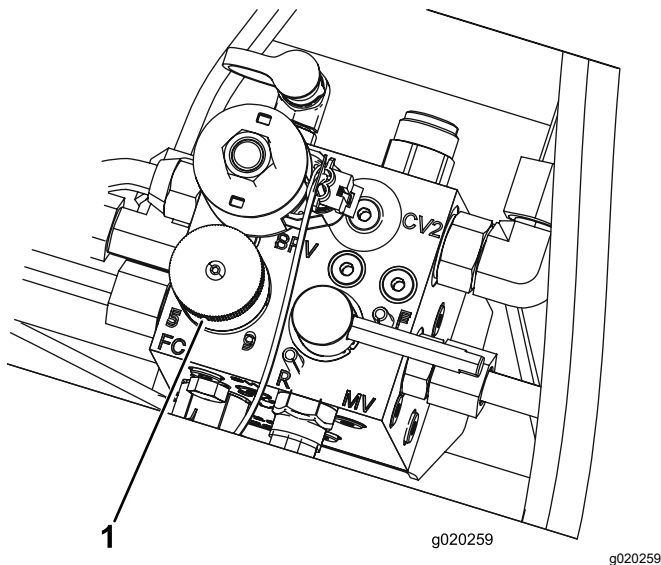

Figure 32
- To set the reel speed, rotate the knob (Figure 32) until the indicator arrow is in line with the number designating the desired setting.